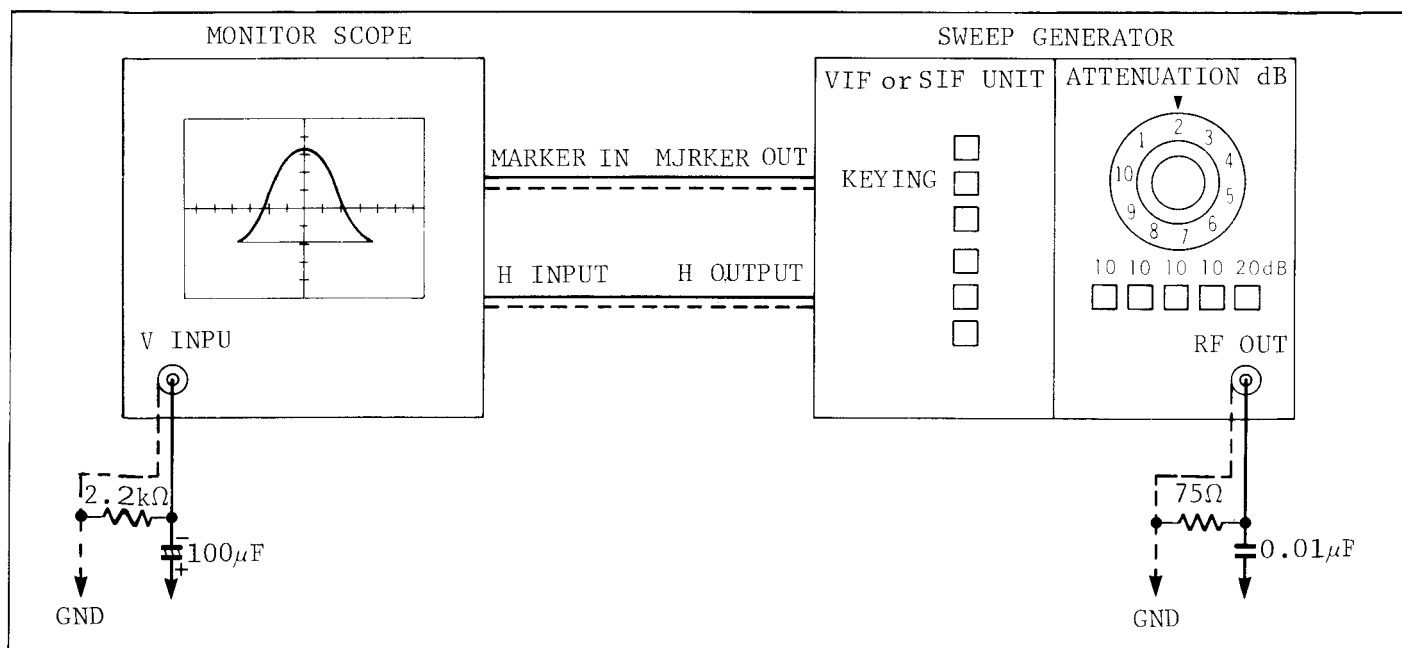

Fig. E13. Connection of Measuring Equipment
1. Connection of measuring equipments is shown in Fig. E13.